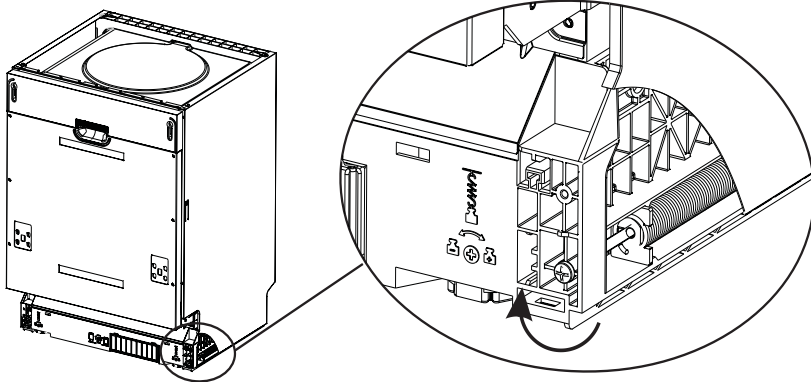

Figure 5 - Tension adjustment of the door spring
- The door springs are set at the factory to the proper tension for the outer door. If aesthetic wooden panel are installed, you will have to adjust the door spring tension. Rotate the adjusting screw to drive the adjustor to strain or relax the steel cable (see figure 5).